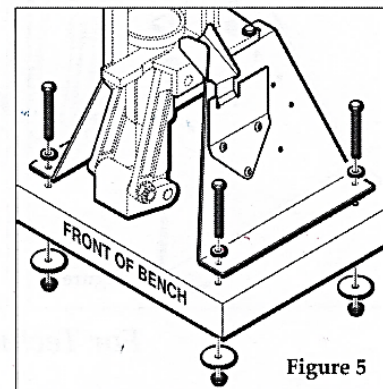

Figure 5
**Step 5** Use the four long bolts, the four remaining small washers, four fender washers and the four remaining lock nuts to bolt the machine to the bench as shown in Figure 5.